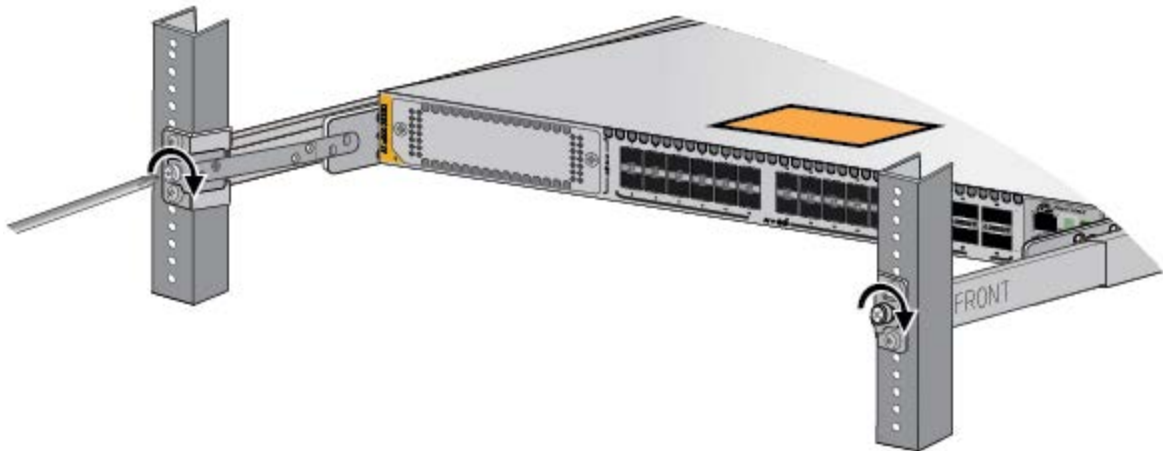

Figure 123. Tightening the Two Screws on the Fixed Brackets
4. Tighten the two screws on the fixed brackets to secure the switch to the equipment rack. Refer to Figure 123.